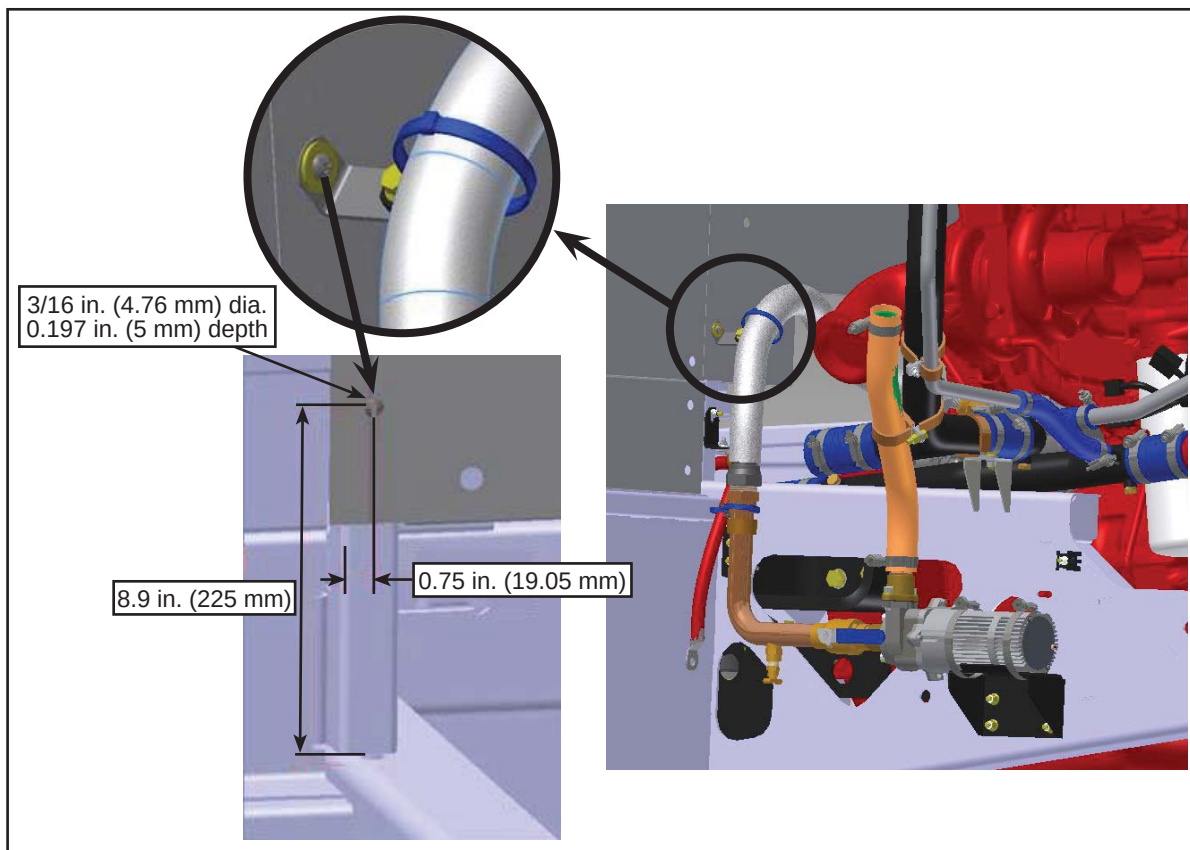

Figure 7 - N34500-01 Bracket Hole Drilling Location
- 1.11. Use an angle drill to drill a hole $11/64$ in. (4.37 mm) in diameter x 0.197 in. (5 mm) in depth into the firewall to hold the N34500-01 bracket in place. See Figure 7. Shorten (cut) the drill bit if necessary.